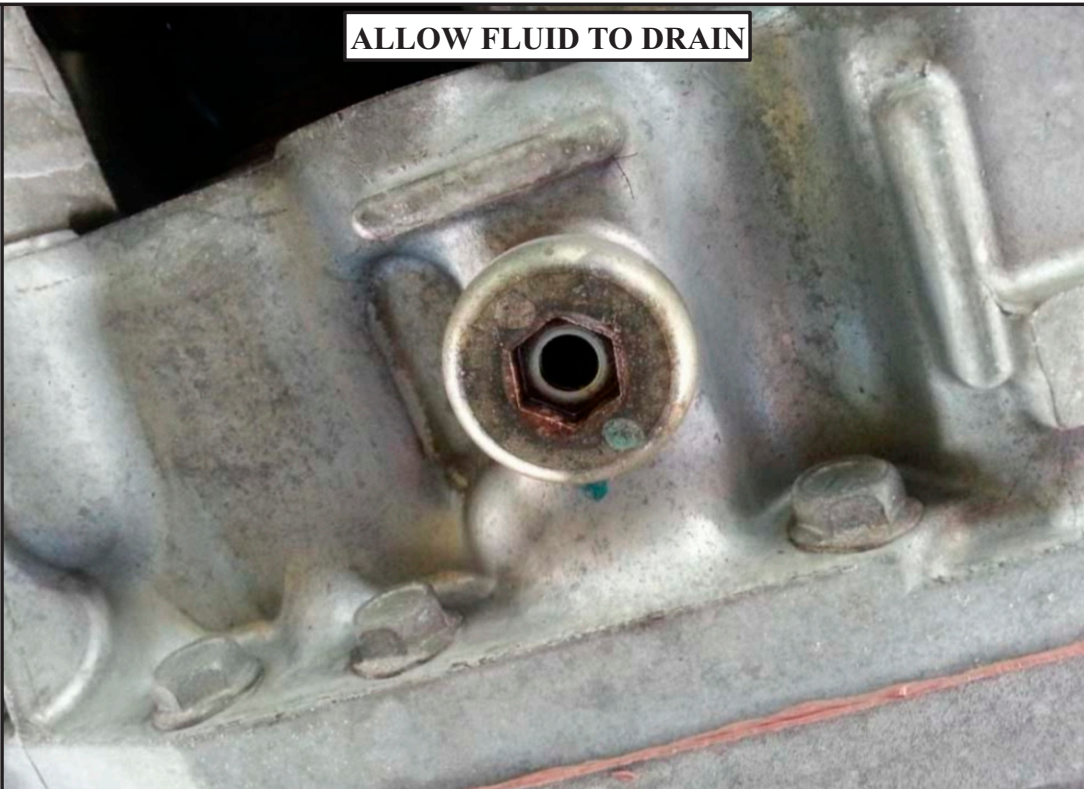

Figure 4
- 4 - Allow the fluid to stop draining as seen in figure 4.